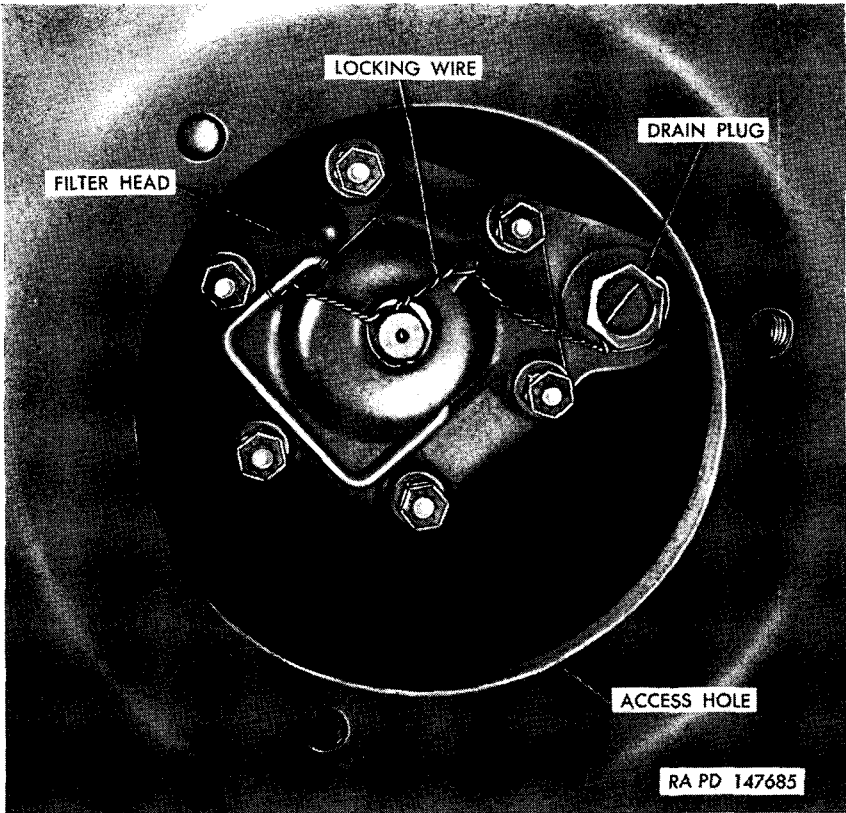

Figure 105. Oil filter element—installed view.
a. REMOVAL. Remove the oil filter access hole cover from bottom of hull (fig. 285). Remove locking wire from six oil filter nuts and drain plug (fig. 105). Remove plug and drain oil from filter housing. Remove jam nuts, nuts, and washers from six studs and remove oil filter element.
c. **INSTALLATION.** Insert the filter element back into housing in the accessory case using the same precautions outlined for removal (*a* above). When installing the filter element, do not attempt to force it into place. If binding is noted, withdraw and inspect pilot for evidence of misalignment. A properly aligned filter element will seat without forcing. When the filter element has seated, install new gasket. Secure with six nuts and washers and lock with jam nuts. Install drain plug. Lock drain plug and nuts with locking wire (fig. 105). Install oil filter access hole cover (fig. 285).